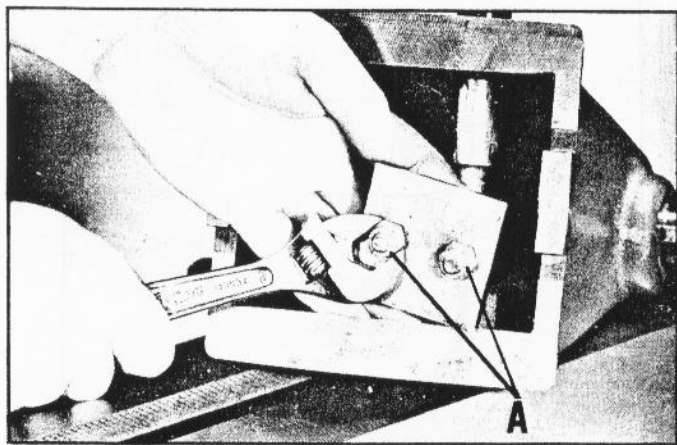

Fig. 8.
Should it become necessary to reset the clamping lever, adjust the two hexagon nuts (A) Fig. 8.